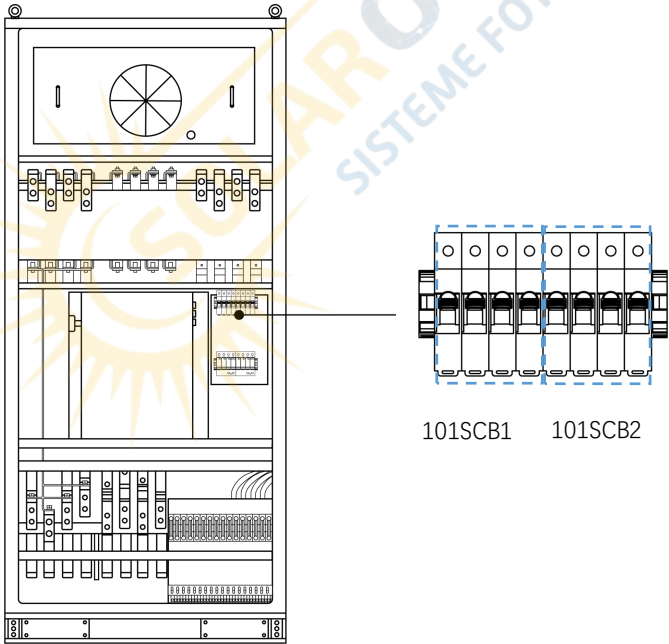

Figure.2
1. Turn on SPD breakers **101SCB1** and **101SCB2**. See the Figure.2.